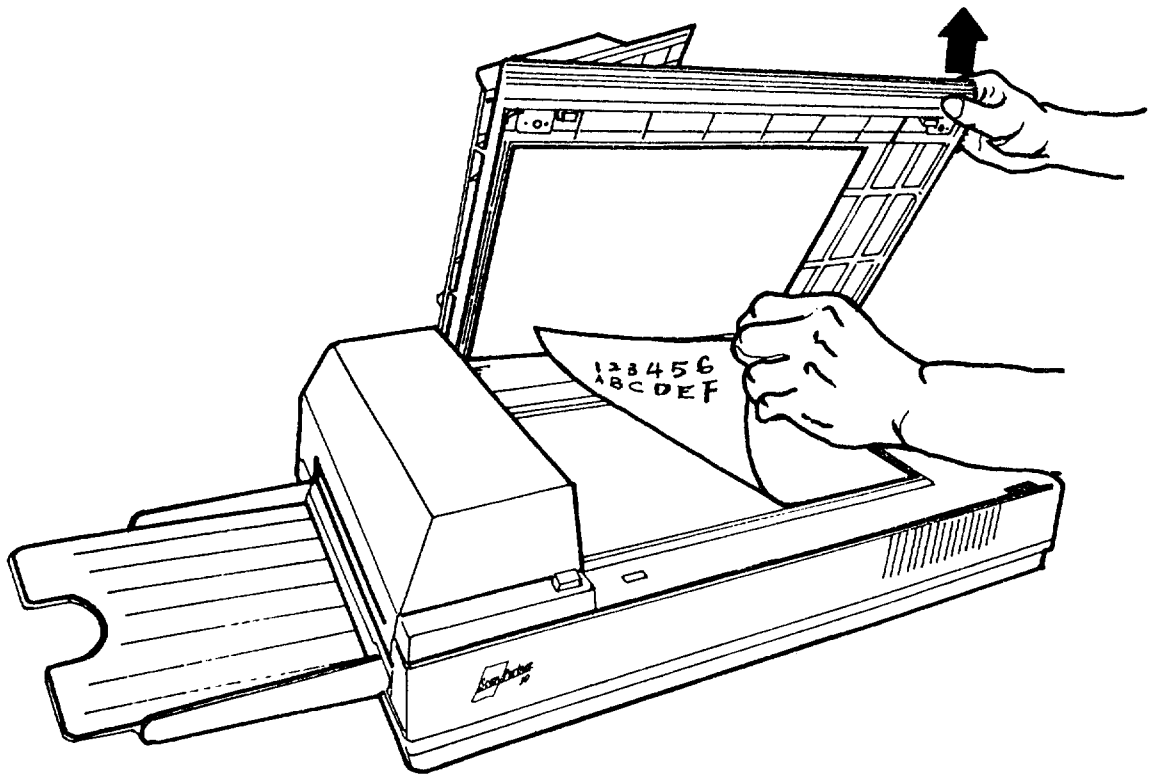

Figure 3.2 Flat-bed scanning (1)
2. Place the document face down on the document board with the top edge towards the scan aperture, as shown in Figure 3.2.